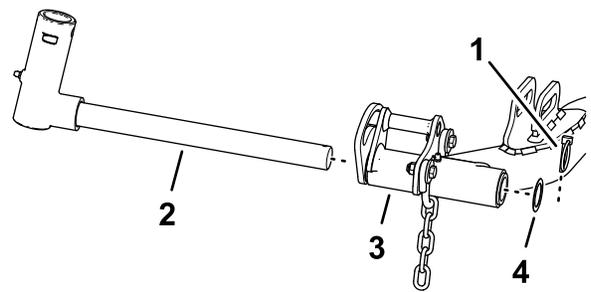

**Figure 24**
- Slide a cutting unit under the lift arm (Figure 24).